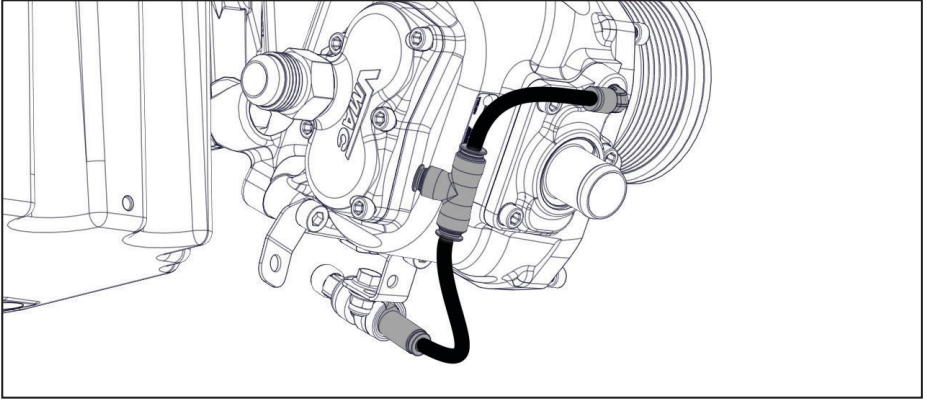

Figure 37 — Connect PTFE tubes
- From the 24 in spool of 1/4 in PTFE tubing, connect the scavenge tube to the compressor, pressure sensor assembly, and Union Tee (Figure 37).